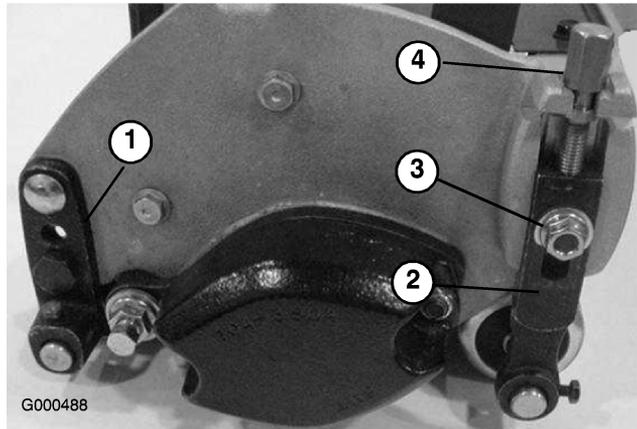

Figure 51
1. Adjust rear roller brackets (Figure 51) to upper or lower position depending on desired height of cut range.
3. Loosen locknuts securing height-of-cut arms to cutting unit side plates (Figure 51).